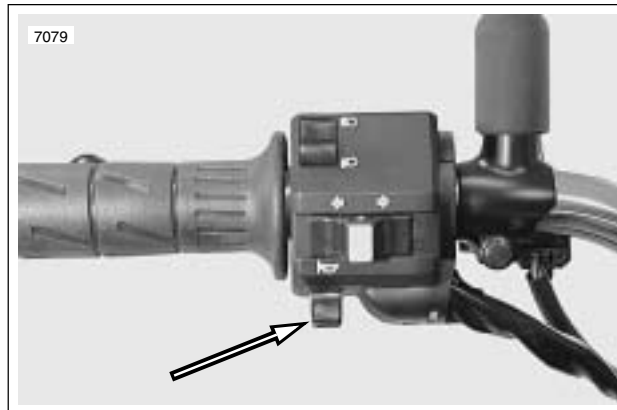

Figure 7-76. Horn Switch Location
3. See Figure 7-76. Depress horn switch and observe voltmeter reading.